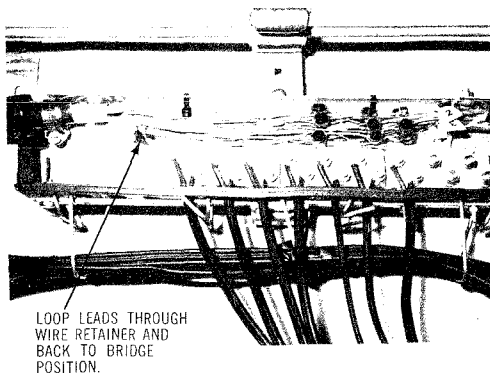

Fig. 4 — Bridging Binding Post Leads To Cable Conductors
- (1) Separate the cable pairs assigned from the Assignable Count binder groups. Make certain that these pairs are not broken or damaged.
(2) Loop the terminal block leads from the binding posts through the wire retainer and back to the position where the bridge is to be made (Fig. 4).